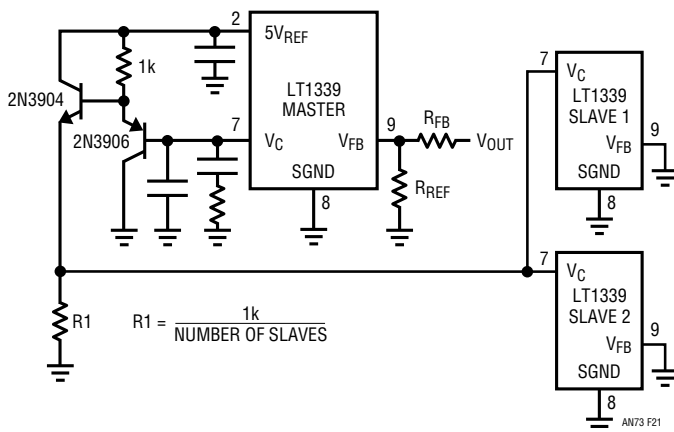

Figure 21. Master/Slave Current Sharing
1. Master/slave current sharing is performed by the circuit detailed in Figure 21.